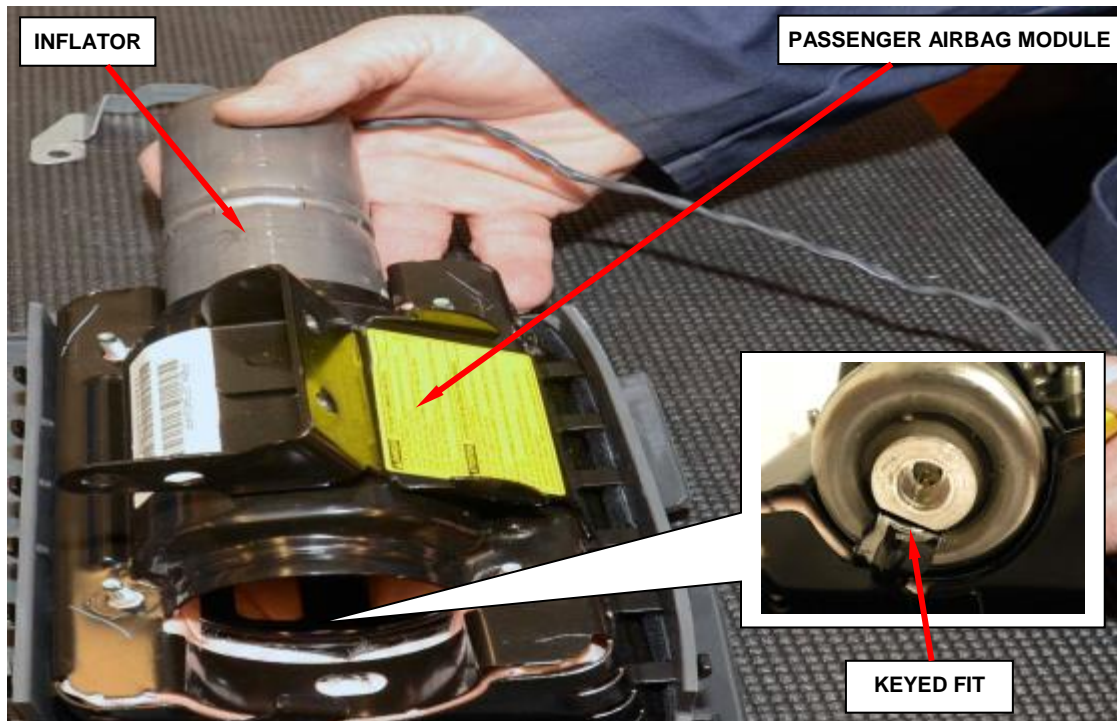

Figure 28 – Passenger Airbag Inflator to Housing
- f. Slide the inflator out of the passenger airbag module (Figure 28).
- g. Slide the new inflator into the passenger airbag module (Figure 28).
NOTE: The inflator is keyed to fit into the housing (Figure 28).